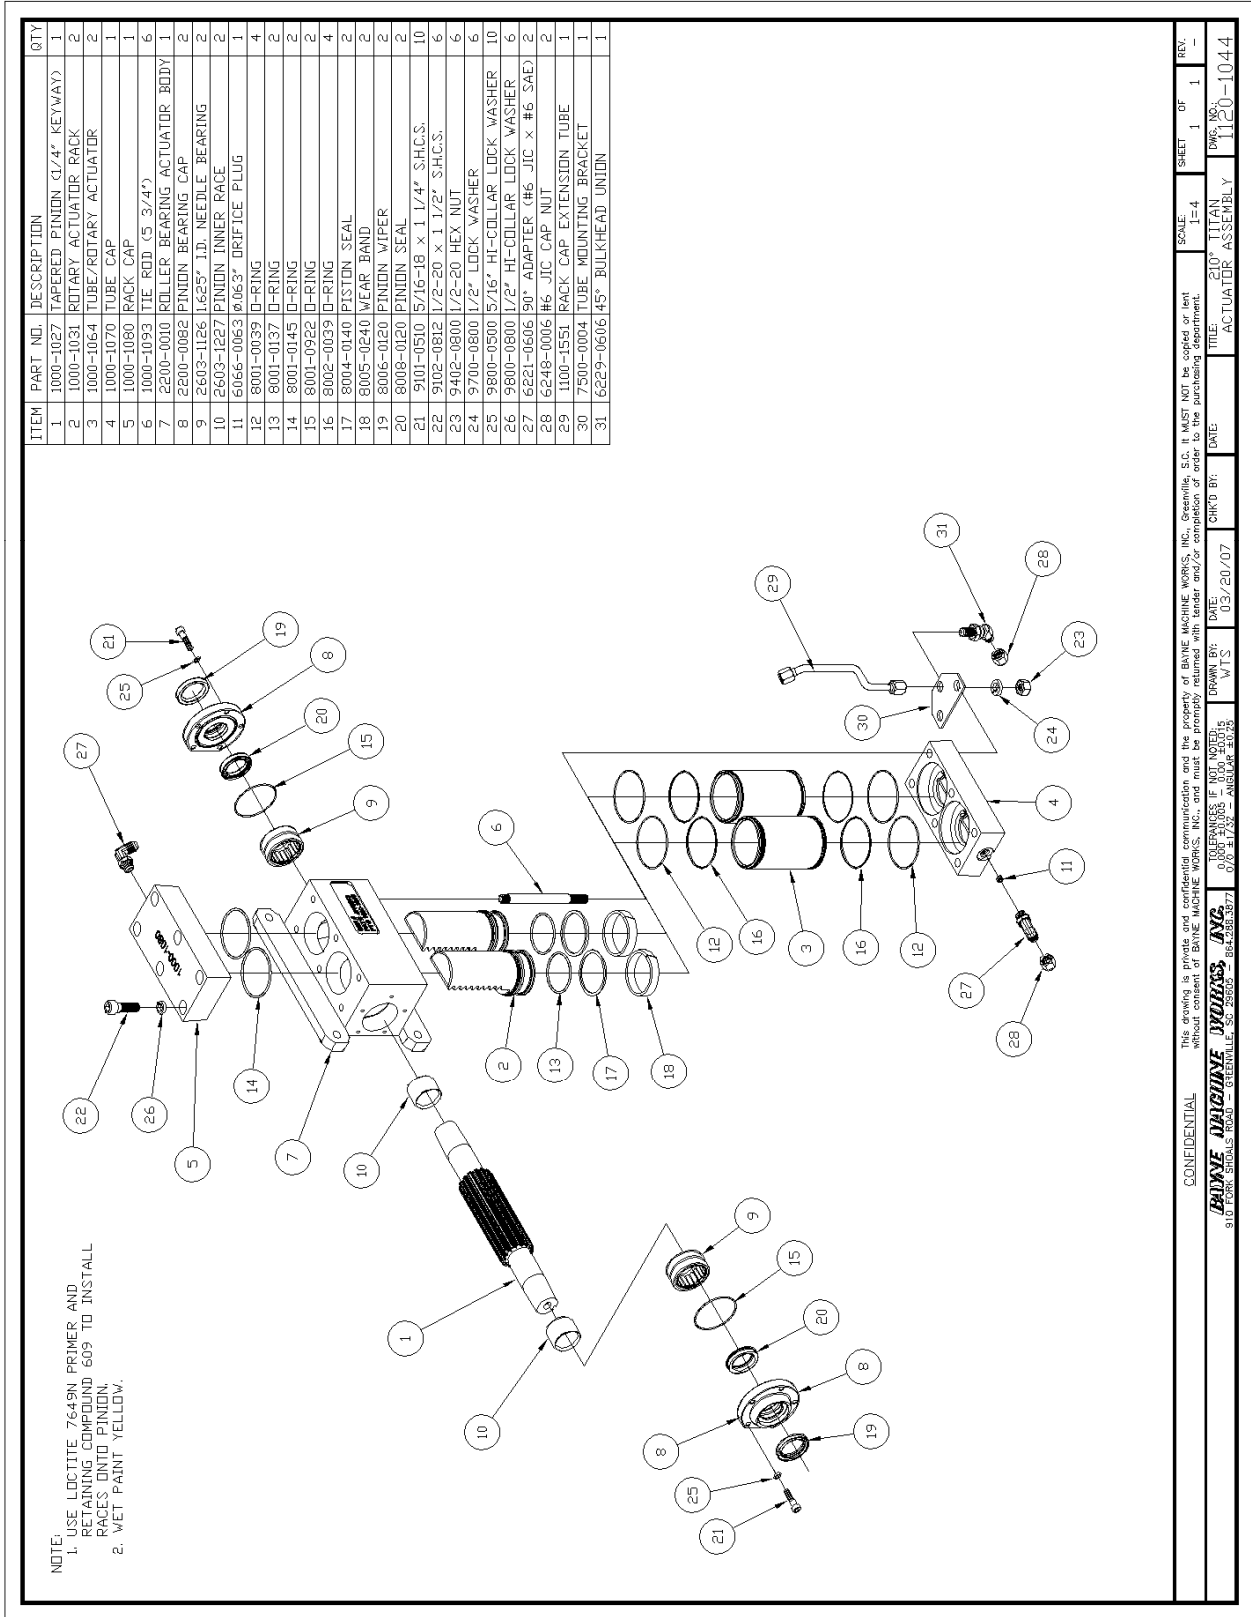

figure A-13
Before starting the assembly of the Rotary Actuator, refer to the exploded parts drawing and parts list (fig. A-13 found at the end of these instructions) to familiarize yourself with the individual components. Prepare a clean surface, in an area free of blowing dust and contaminants in which to assemble the Rotary Actuator. Be sure that all parts are thoroughly clean and dry before starting assembly.
2. Install the tube seal (12) (fig. A-2) and “square” tube seal backup (16) on each end of the actuator tubes (3) (fig. A-13). Be sure that the “square” tube seal backup ring is toward the inside of the tubes at both ends as shown. Press all rings firmly into the grooves. Repeat this procedure for the other tube.
- Coat the head portion of the racks (2) (fig. A-13) with STP Oil Treatment. Install the racks, head portion up with the teeth facing the flanges of the actuator body, into the dual set of bores in the body. Simultaneously slide the racks into the bores so that the racks mesh with the pinion in the same position. Rotate the pinion shaft to engage the racks into the pinion.
7. Coat one end of the actuator tubes (3) (fig. A-13) around the seal area with STP Oil Treatment as shown in figure A-7. Using a rubber mallet, drive the coated end of the tube onto the exposed rack until the tube end seats in the actuator body, making sure that the seals remain in place as the tube enters the counter-bore. Repeat this procedure for the other side.
8. Install the six tie rod studs (6) (fig. A-13) by screwing the short threaded end into the actuator body. Hand tighten only at this time (the torque needed will be applied later in the procedure).
9. Place the tube cap (4) (fig. A-13) on the table. Coat the sides of the two bores in the tube cap with STP Oil Treatment. Install the cap over the tubes and rod studs with the oil port positioned to the left as shown in figure A-13. Using a rubber mallet, tap the tube cap over the tubes until the tubes seat in the cap, making sure that the seals remain in place.
10. Place the tube mounting bracket (30) (fig. A-13) over the two end rod studs opposite the oil port in the tube cap as shown in figure A-13.
11. Install the hex nuts (23) (fig. A-13) and lock washers (24) on the tie rod studs. Torque the nuts to 50 ft-lb. in the sequence shown in figure A-8.
12. Place the rack cap (5) (fig. A-13) bore side up on the table and coat the edge of each bore with STP Oil Treatment. Install the rack cap seals (14) (fig. A-9) in the rack cap.
13. Reposition the actuator on the table mounting flanges down, and the lower tubes facing away from the assembler. Rotate the pinion shaft to allow 1" of the rack to protrude from the top of the actuator body. Install the rack cap with the oil port positioned to the left hand side of the actuator opposite the bottom oil port located in the tube cap as shown in figure A-13. Attach the rack cap to the actuator body using the socket head bolts (22) (fig. A-13) and lock washers (26). Torque the bolts to 90 ft-lb. in the sequence shown in figure A-10.
15. Re-center the actuator pinion in the actuator body by tapping on one end of the shaft with a rubber mallet. Install the roller bearing (9) (fig. A-13), over the pinion shaft and inner race, and into the actuator body. Repeat this procedure for the other bearing.
18. Wrap masking tape or electrical tape around the pinion to cover the edges at the keyway. Slide the bearing cap assembly over the pinion shaft with the bearing cap seal facing toward the actuator body and the flat surface of the flange shown in figure A-12 facing toward the actuator mounting flanges. Press against the bearing cap until the shoulder seats against the actuator body, making sure that the seals remain in place. Install the bearing cap bolts (21) (fig. A-13) and lock washers (25). Hand tighten only at this time. Repeat this procedure for other bearing cap.
20. Install the 90° fitting (27) (fig. A-13) into the oil port on the side of the rack cap (5). Hand tighten only at this time.
21. Install the 45° bulk-head fitting (31) (fig. A-13) up through the hole in the tube mounting bracket (30) bolted to the tube cap as shown in figure A-13. The 45° end must be pointing down away from the rack cap (5) and back toward the mounting flanges on the actuator body. Hand tighten only at this time.
22. Install the rack cap extension tube assembly (29) (fig. A-13) between the 90° fitting in the rack cap and the 45° fitting in the tube mounting bracket as shown in figure A-13. Tighten all connections.
23. Install the orifice plug (11) (fig. A-13) into the oil port on the side of the tube cap (4), and install the 90° fitting (27) into the oil port over the orifice plug as shown in figure A-13. Turn the fitting so that it points down away from the rack cap (5) and back toward the mounting flanges on the actuator body and tighten.
24. Install the cap nuts (28) (fig. A-13) onto the open fittings to prevent contamination of the unit until the hoses are installed.